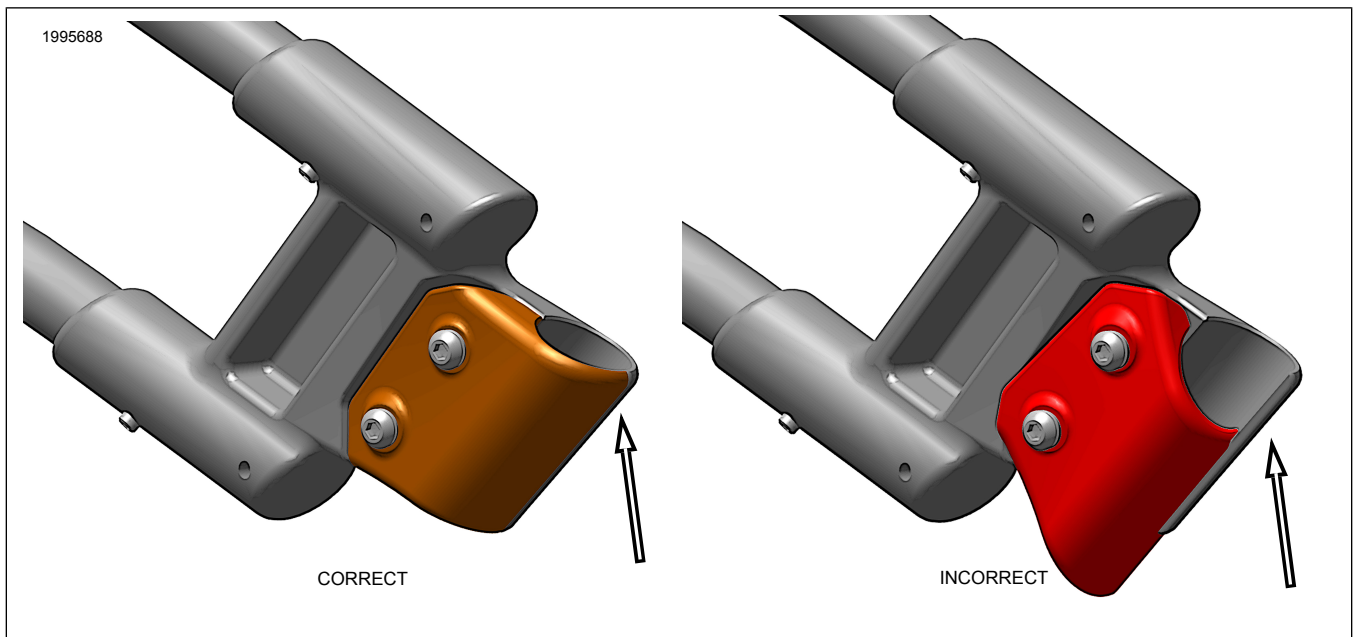

Figure 5. Kits 90202916/90202917 Clamp Orientation
- d. See Figure 5. For kits 90202916/90202917, identify correct clamp position (left or right) as marked on the back side of part. Install correctly as shown.
- e. For kits 90202916/90202917, tighten front clamp screws (9).